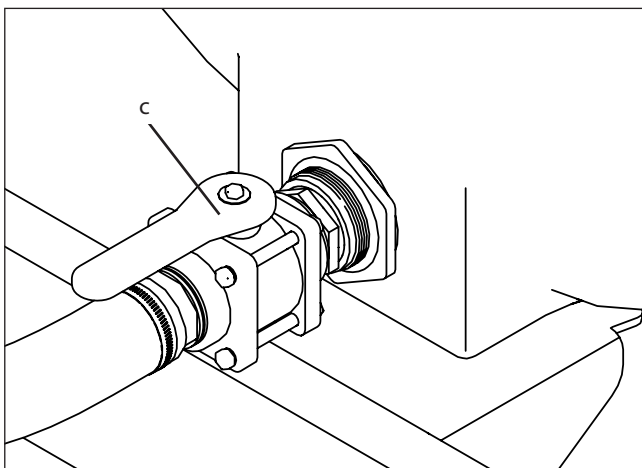

Figure 3: Bypass Valve
4. Open the bypass valve (c) (Figure 3) in the front of the tank.
3. Couple the coupler to the quick coupling on the sprayer that you are filling, and open the valve (b). **NOTE:** To increase speed of filling, partially close the bypass valve (c) (Figure 3, page 10).